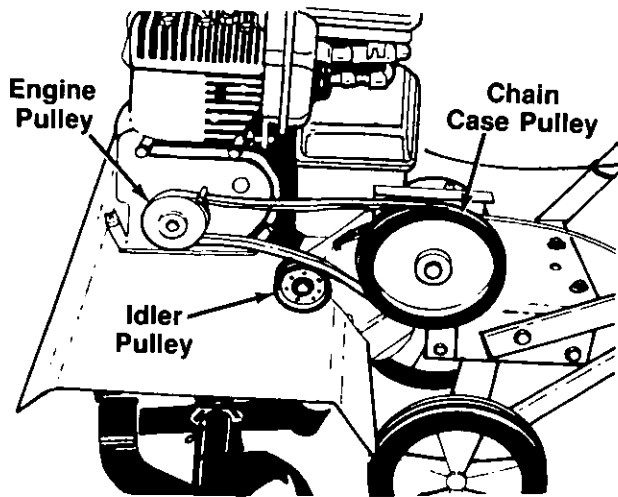

FIGURE 29.
4. To reassemble the new belt, first place belt over engine pulley. Be sure belt is inside two pins at engine pulley. See figure 29.
5. Belt must be over top of idler pulley. See figure 29. Slip end of belt over the chain case pulley.